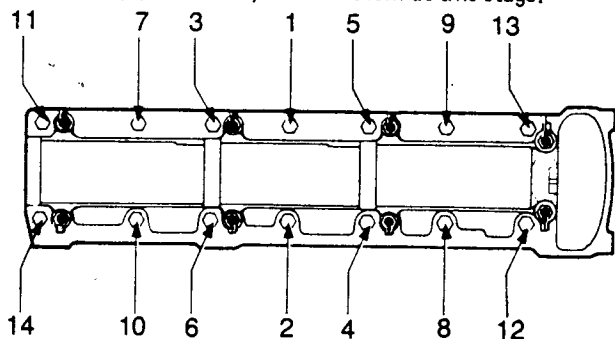

Fig B4.46
- (7) Refer to Fig B4.46. Fit the carrier bolts (1 to 14) and gradually tighten them in a diagonal sequence to 27 Nm.
- (8) Revolve the camshaft several times.
- (9) Check valve clearances and reset if required (see Sub-section B3).